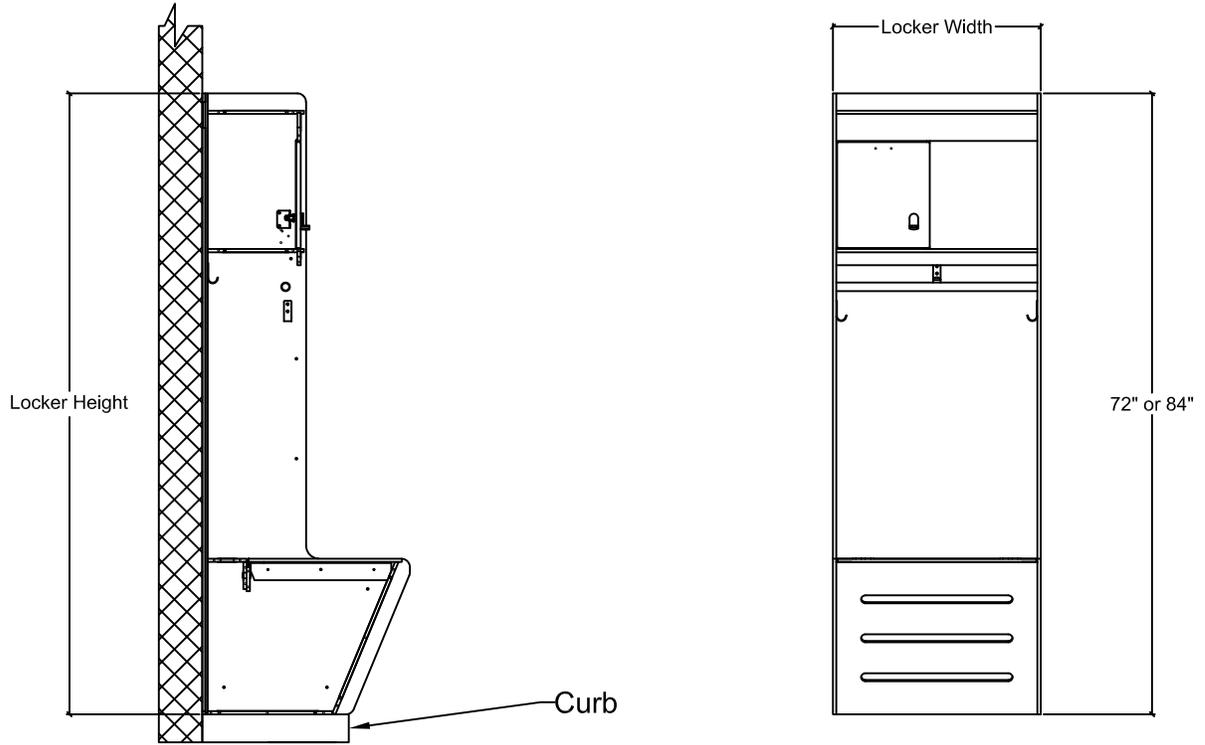

Figure 1.3: Front and Side View
- 3.3 Using the front view of the locker layout sheet, locate the height of the locker, see Figure 1.3. If you are installing the lockers on a concrete curb or sleeper base (by others), then mark this dimension from the highest point of the base.